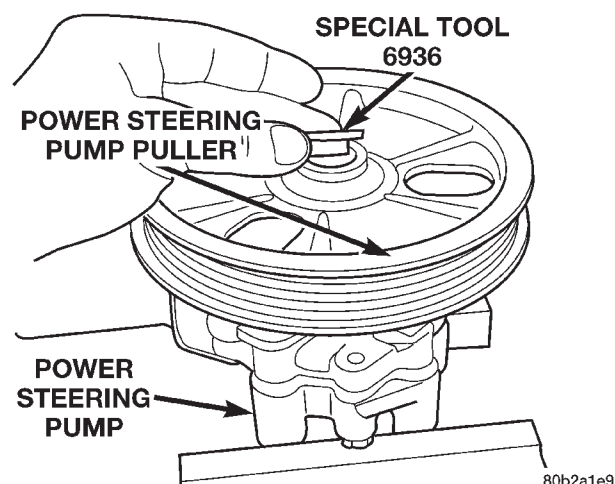

Fig. 18 Spacer Installed In Power Steering Pump Pulley
(2) Install Spacer, Special Tool 6936, into the hub of the power steering pump pulley (Fig. 18).
(3) Insert the Pulley Installer, Special Tool C-4063, (without adapters) through hole in spacer. Thread